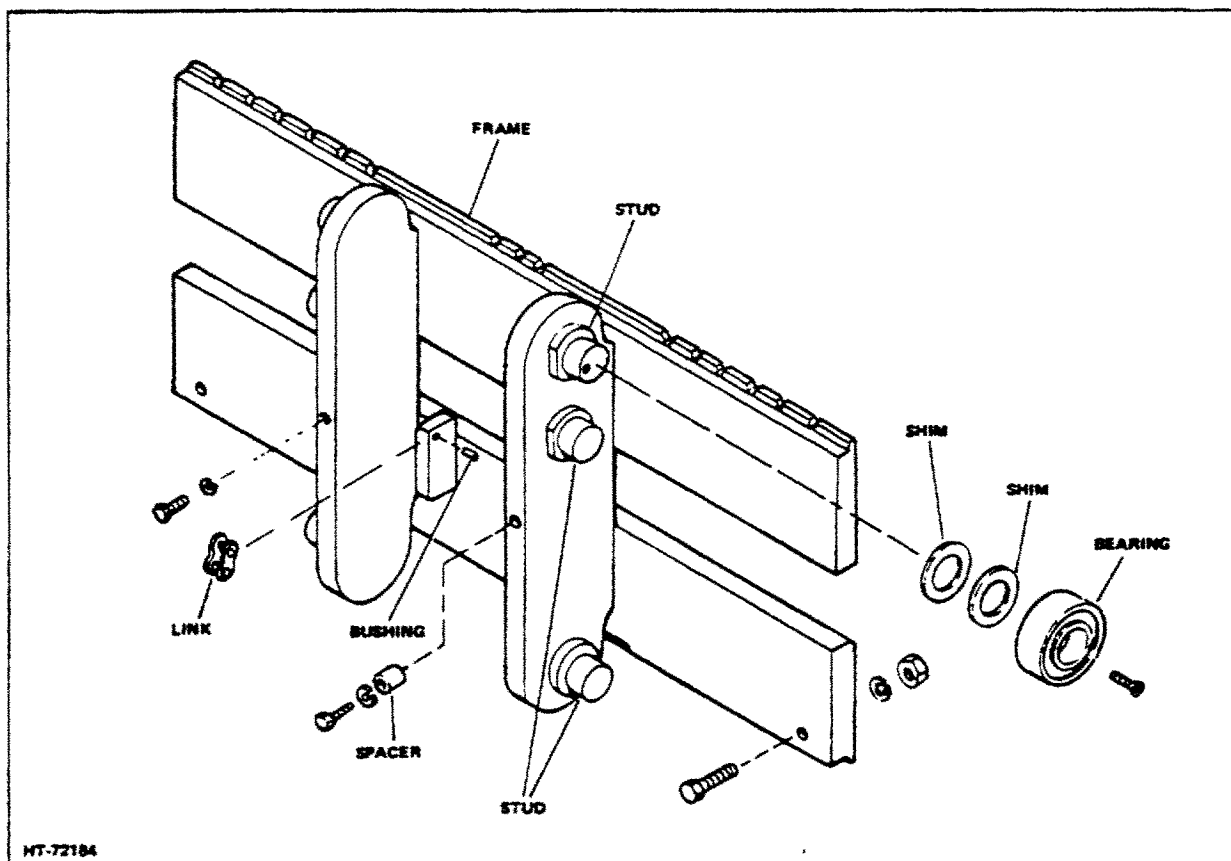

Figure 1. Hook Type Carriage Assembly (Typical)
2. Remove bearings and shims from roller studs (Fig 1).